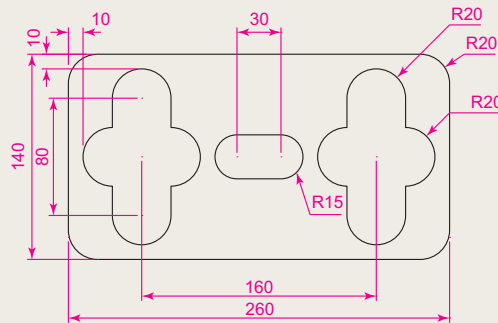

Fig. 5.48 Exercise 3
3. Using the tools **Polyline**, **Circle**, **Trim**, **Polyline Edit**, **Mirror** and **Fillet** construct the drawing in Fig. 5.48.